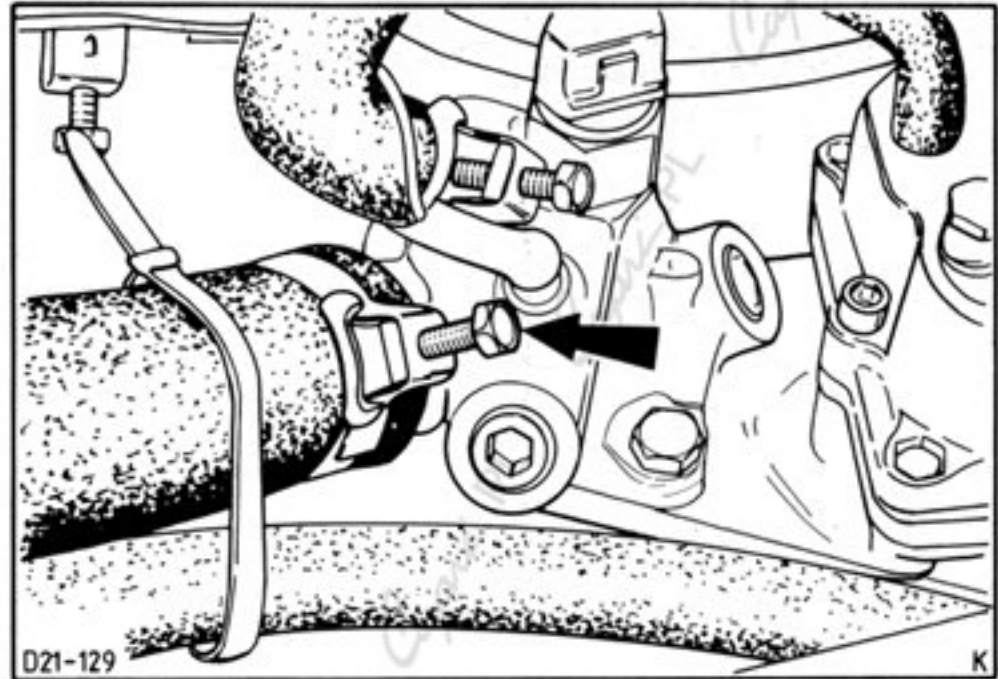

Fig.4. Disconnect upper radiator hose.
2. Drain coolant by disconnecting lower radiator hose from water-pump neck and upper hose from radiator, Fig.4.